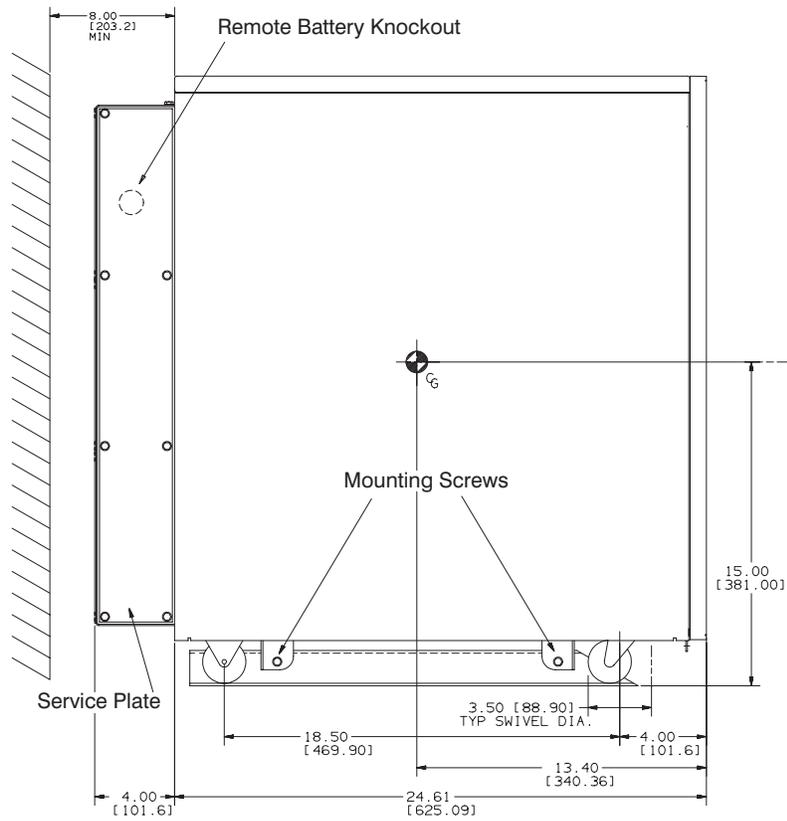

Figure 38. Remote Battery Access
2. Remove the knock-out for the conduit as shown in Figure 38.